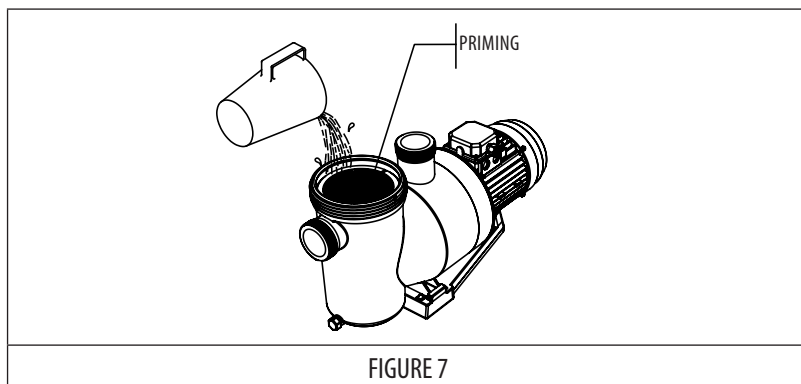

FIGURE 7
- As the pump is self-priming, the pre-filter must be filled with water before starting it up for the first time in order to facilitate the process. (FIGURE 7).